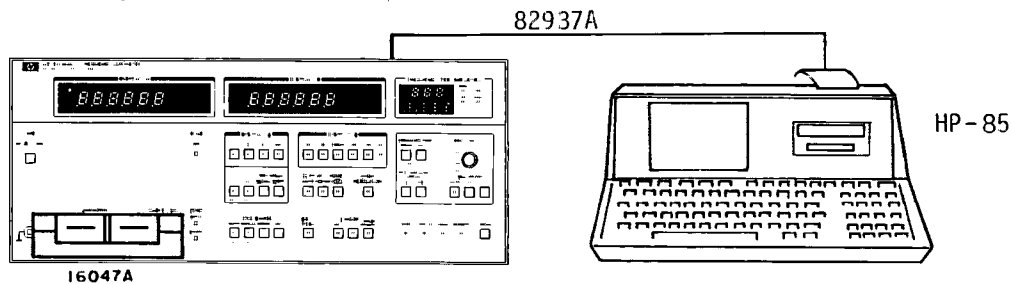

Figure 4-9. HP-IB Interface Test Setup.
2. Connect 82937A Interface Module with cable between HP85 I/O slot and 4275A rear panel HP-IB connector as shown in Figure 4-9.